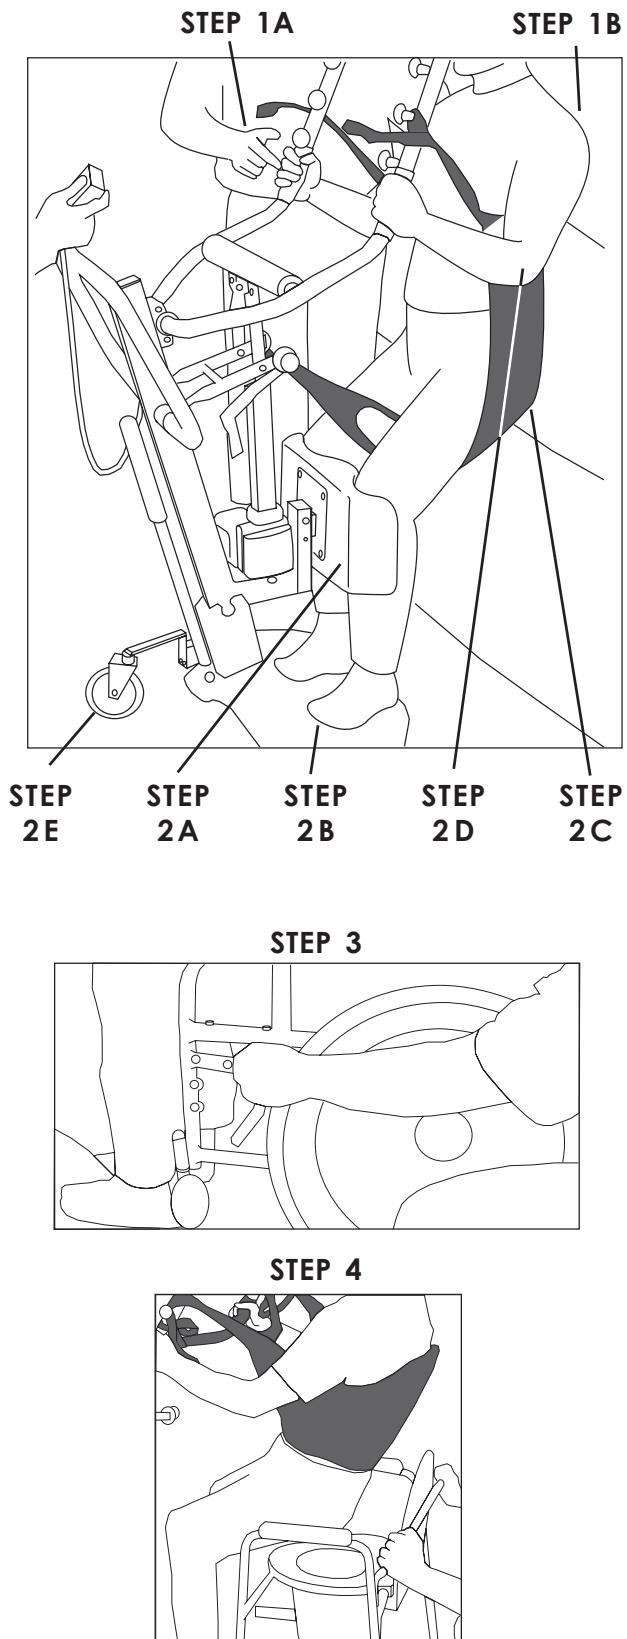

FIGURE 1 - LIFTING THE PATIENT
- B. Patient's feet are positioned on the footplate as shown in STEP 2B of FIGURE 1.
## TRANSFERRING THE PATIENT TO A WHEELCHAIR (FIGURE 1)